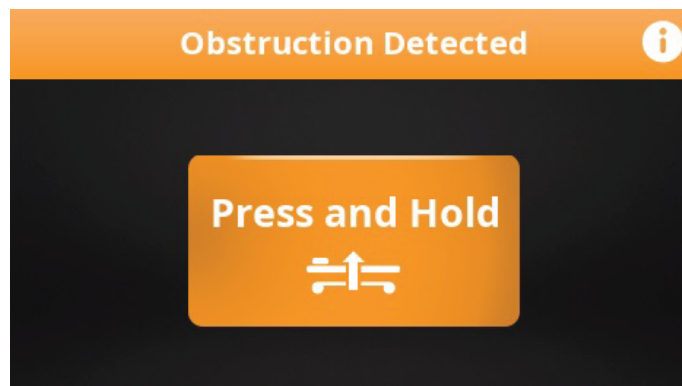

Figure 24 – Obstruction detected
1. Press **Press and Hold** (Figure 24). The product moves to clear the obstruction while you press and hold the selection.